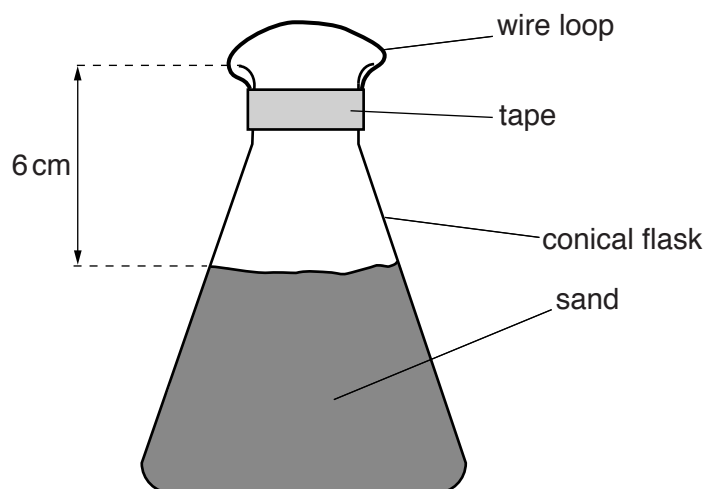

Fig. 1.1
- 1 The flask should have a wire loop attached to its neck with tape or a rubber band, as shown in Fig. 1.1. The loop could be made from an opened-up 3 cm paper clip. Dry sand should be added to a level 6 cm from the top of the flask.